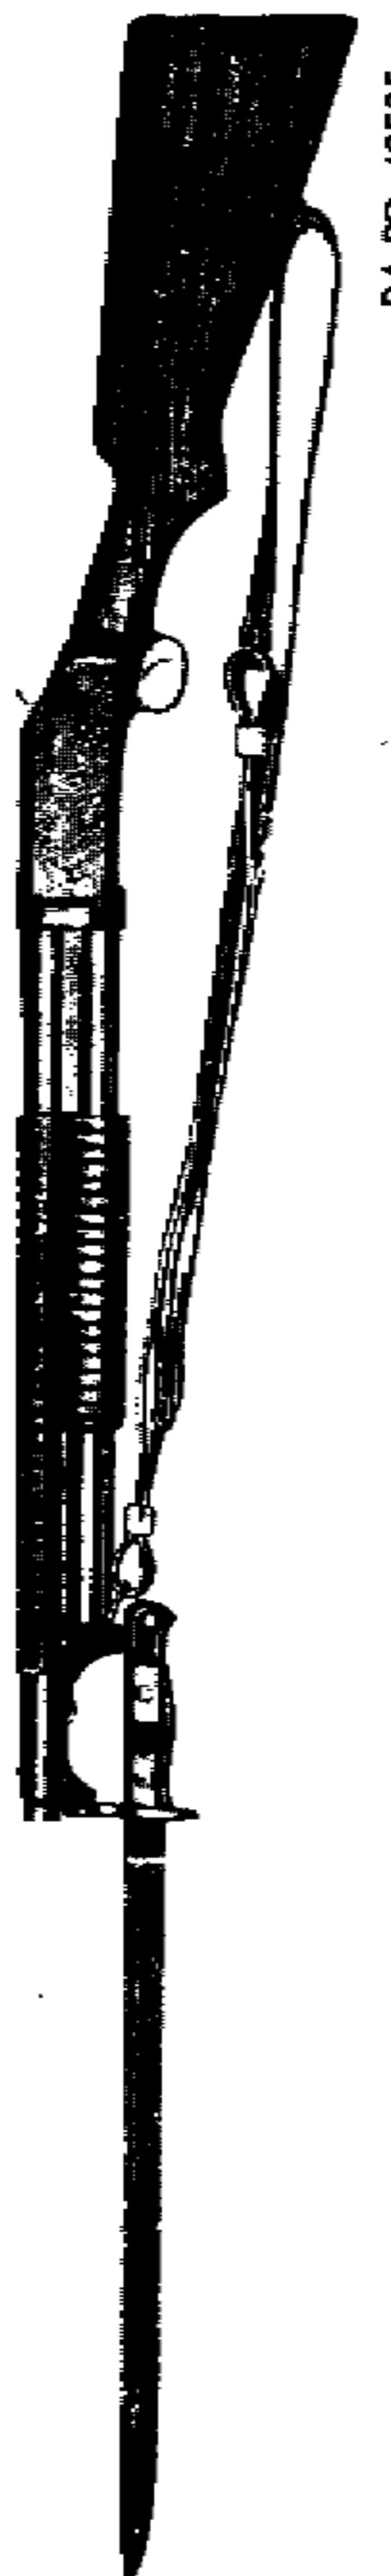
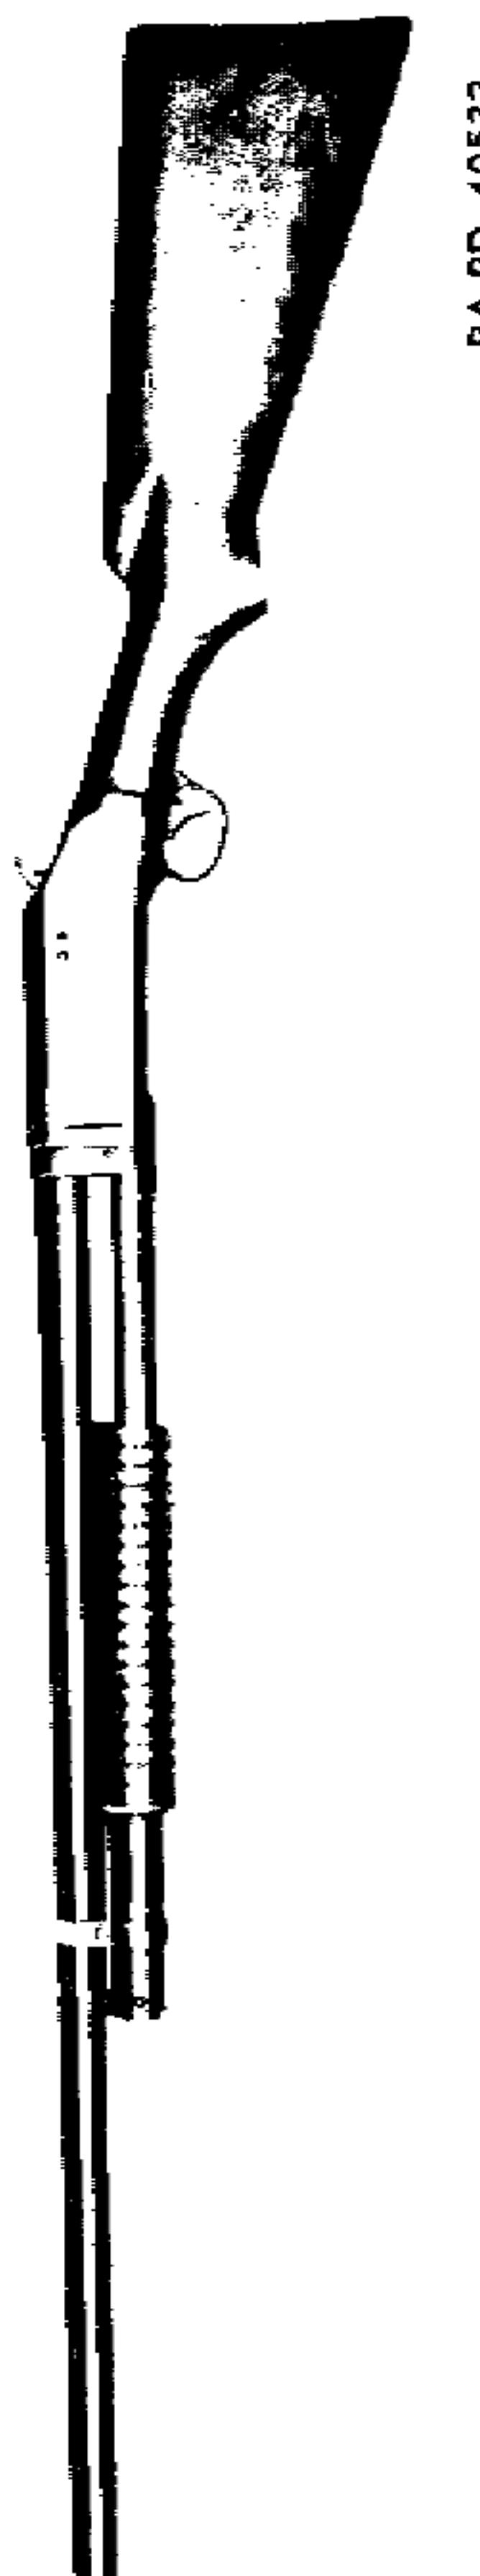

Figure 1—Gun with Bayonet, Hand Guard—Left Side View—Riot Type (Solid-Frame)—
Figure 3—Left Side View—Sporting Trap Type (Take-down)—Winchester Shotgun M97
(1) Name of maker, gage, model, and barrel boring are stamped on the top of the barrel near the breech end.
(2) Serial number of the gun is stamped on the lower face of the barrel near the breech end, and on the lower face of the forward end of the receiver.
(3) On solid-frame gun, maker's name and model are stamped on the action slide bar, and the serial number of the gun as in (2) above.
b. This gun (figs. 1, 2, 3, and 4) is a manually operated repeating shotgun of the slide action, hammer type, manufactured in both solid-frame and take-down types. In the solid-frame gun (figs. 1 and 2) the barrel is screwed into the receiver at manufacture and is not intended to be removed except for repair; the magazine is also screwed into the receiver but can easily be removed by removal of a stop screw and unscrewing the magazine from the receiver. The take-down gun is so constructed that the barrel and magazine together with the action slide group can easily be removed as a unit by disengaging interrupted threads on rear end of the magazine and barrel from like interrupted threads in the receiver by which the barrel and magazine are locked to the receiver. This construction facilitates cleaning and transportation of the gun.
(1) The riot-type gun (figs. 1 and 2) may come in either the solid-frame or take-down design, with a 20-inch plain barrel, bored cylinder. Most of these guns have a bayonet attachment and hand guard (fig. 5) attached to the muzzle end of the barrel and the magazine, and a leather sling attached to a sling swivel on the bayonet attachment and the stock. These are always of the solid-frame or modified solid-frame type.
(2) The sporting skeet-type gun usually comes in the take-down design only and is furnished with a 26-inch plain or ribbed barrel, bored improved cylinder, and is without bayonet attachment or sling.
(3) In the sporting trap-type gun (figs. 3 and 4) is similar to the skeet gun but is made with a 30-inch barrel, bored full choke, and is without bayonet attachment or sling.
(9) The gun sling is of leather of the M1907 model and the bayonet and bayonet scabbard are the M1917 model (figs. 1 and 2).